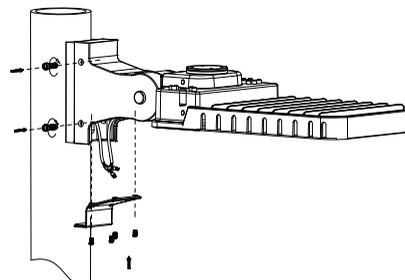

FIG. 5
3. Tighten the 4pcs M8 \*20 bolts on the flexible arm and secure it to the adapter. Connect the power leads properly according to the wiring diagrams below. Make wiring connections inside the flexible arm, and tighten the bottom cover with 4pcs M4\*12 screws (see FIG. 5). The wiring connections can also be made inside the pole.